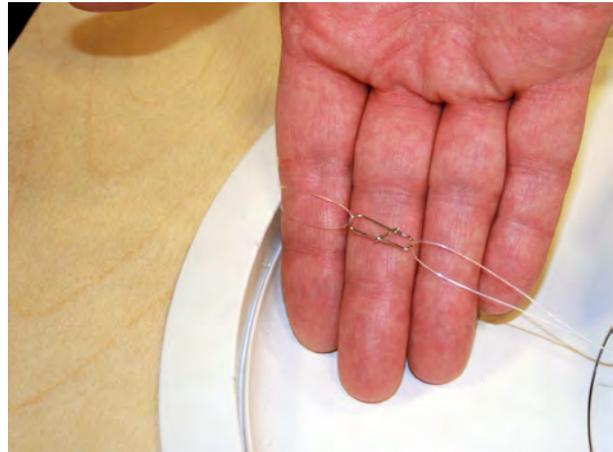

Figure 33. Grille safety clip and line (left) should look like this (right) when attached.
4. Once the loudspeaker is secured in the back can, you can attach the safety cable between the grille and loudspeaker. There is a nylon mono filament loop attached to the grille and looped through a metal clip. Another mono filament line is located inside the bass reflex port of the face of the loudspeaker. Use the metal clip to link these two mono filament loops. See Figure 33.